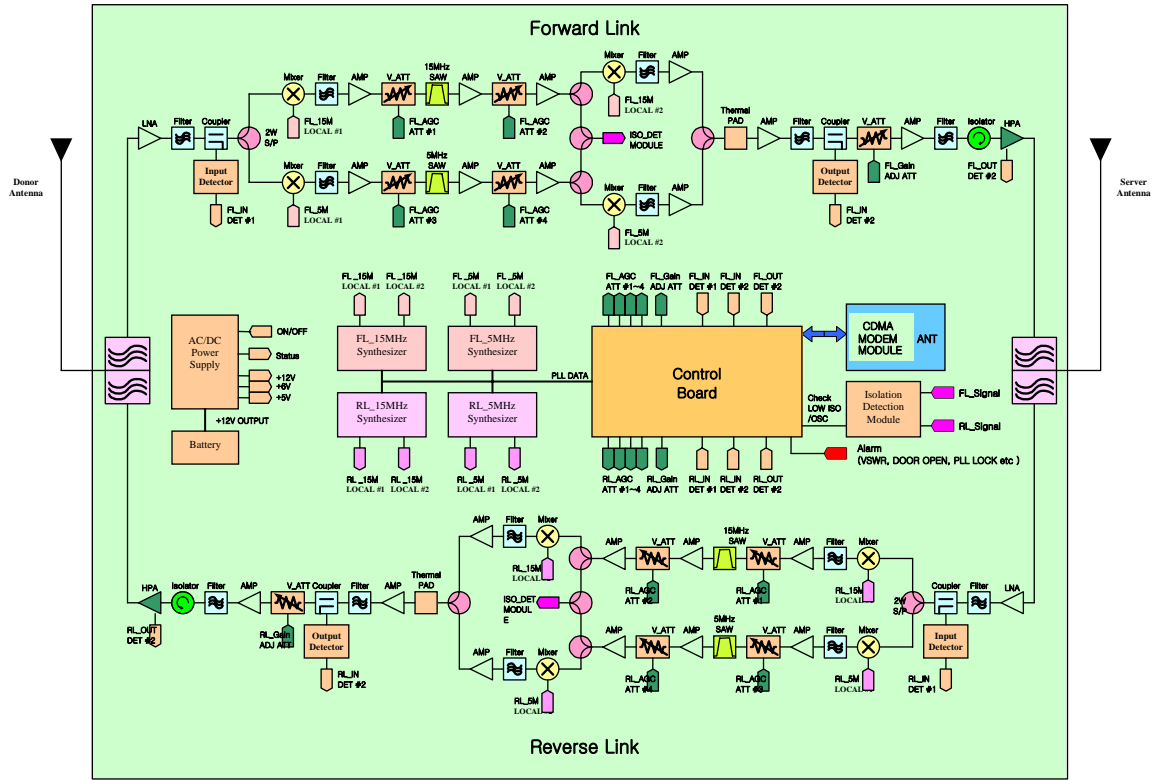

Figure 1: Epoch-S02-19001W Block Diagram
Figure 1 describes the operation of the Epoch-S02-19001W repeater. The donor antenna points to and receives the signal from the BTS and feeds it to the downlink (DL) path of the repeater. The DL signal is amplified and radiated by the server antenna. On the other side, the uplink (UL) signal from the mobile station (MS) is received by the server antenna, amplified by the repeater and reradiated by the donor antenna to the BTS.